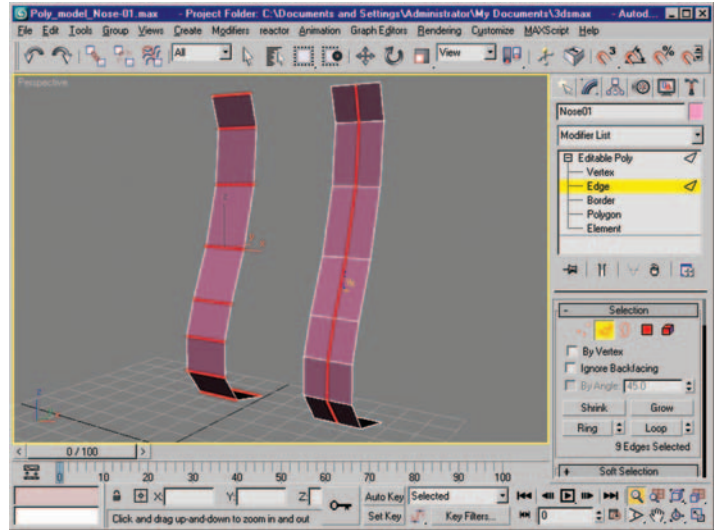

Figure 3.10 Edge Ring selection and new edge loop created with Connect.
4. From here we are going to select a single horizontal edge and use Ring (Alt+R) to select all of the horizontal edges. With the Connect button (or assigned keyboard shortcut Ctrl+Shift+E) we are going to create a new vertical edge loop (Figure 3.10).